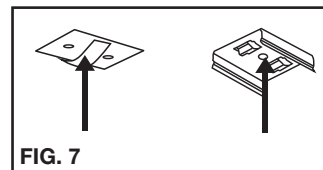

FIG. 7
2. Remove light bars from bar mounting clips to expose the screw holes. (See **FIG. 7**)